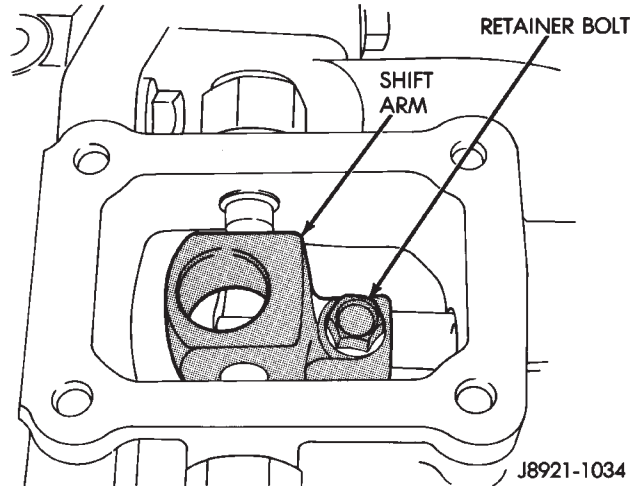
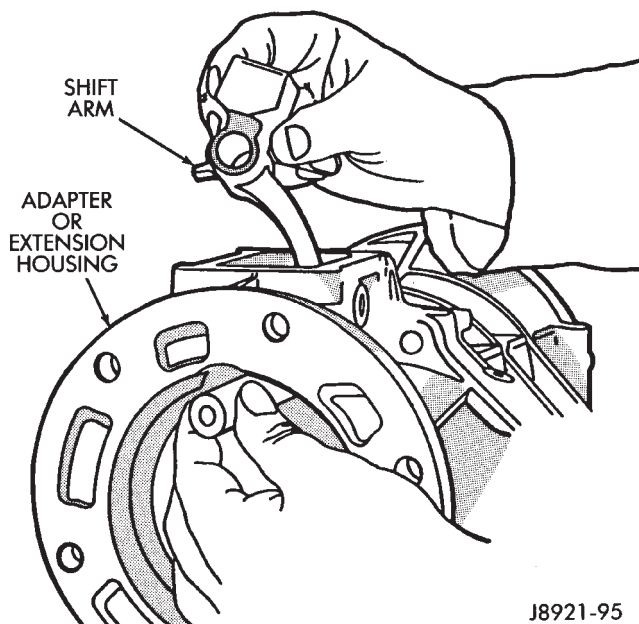

Fig. 41 Install Shift Arm Retainer Bolt
Fig. 40 Install Shifter Arm Shaft
- (11) Start shifter arm shaft in hole in back of adapter or extension housing. Align shift arm and shifter arm shaft and insert shifter arm shaft through the shifter arm and into the forward portion of the adapter or extension housing (Fig. 40).
- (12) Rotate the shifter arm shaft until the hole in the shifter arm is aligned with the hole in the shaft.
- (13) Install the shift arm retainer bolt and tighten to 38 N·m (28 ft. lbs.) (Fig. 41).